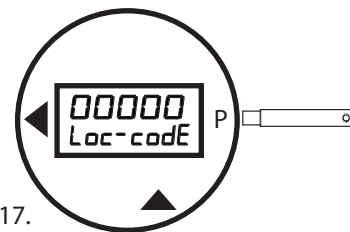

Figure 17.
- Hold the magnetic wand at the **P** on the right side of the register. After five seconds the register will display "Loc-codE" (Figure 17). The last digit will flash.